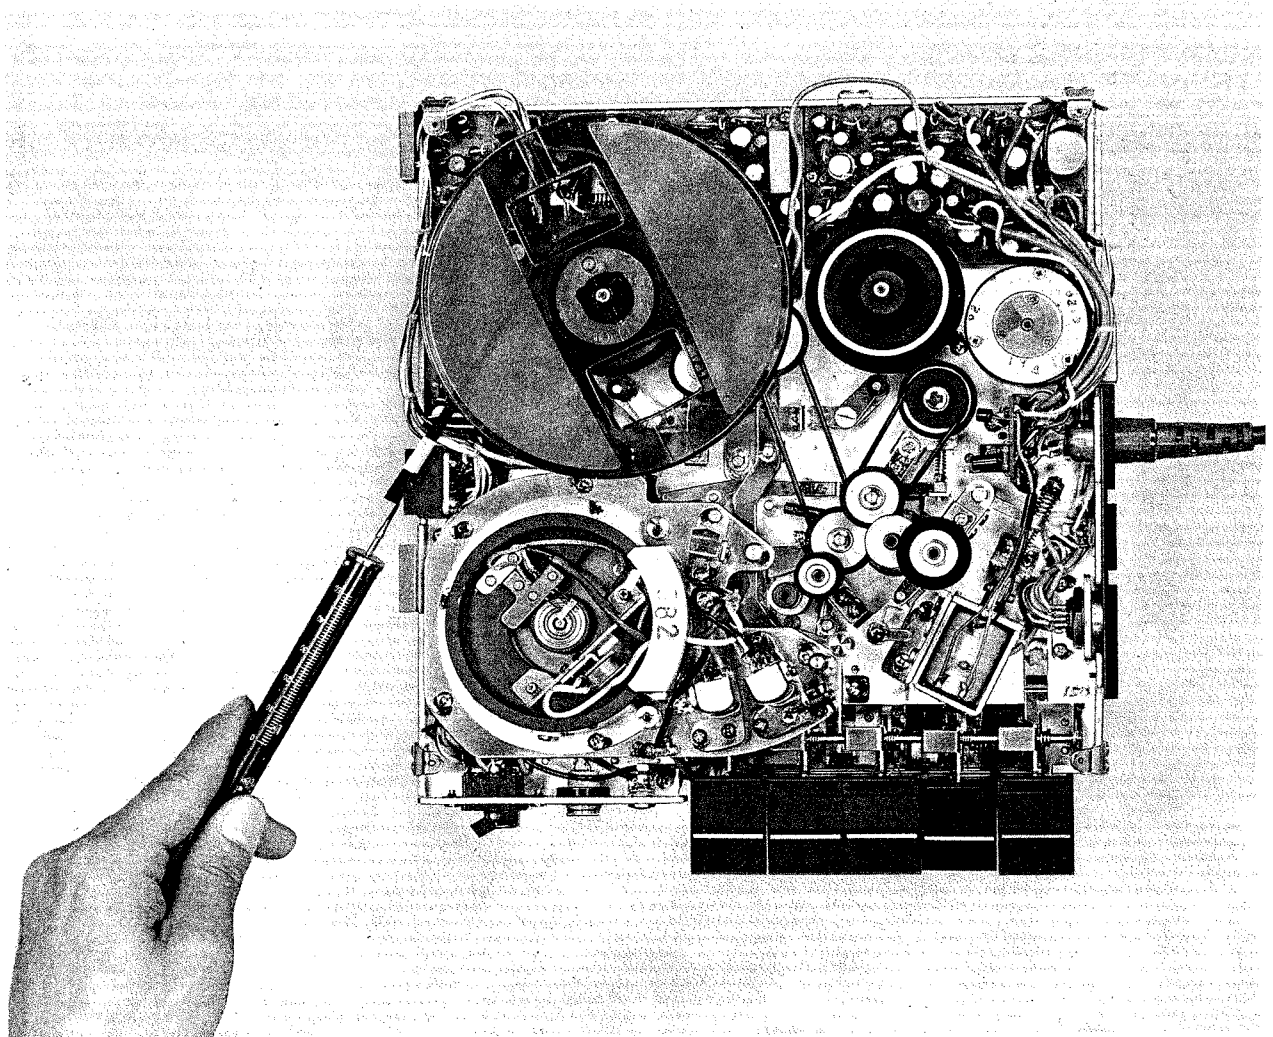

Fig. 1-36 Tape Hold Back Tension Measurement
(8) Tape Hold-Back Tension Adjustment
- a) As shown in fig. 1-36, connect a 0 to 50 gram spring gauge to a 50 mm diameter tape and measure tape hold-back tension. (At playback mode, 5 to 8 grams is normal).
(9) Tape Speed Measurement